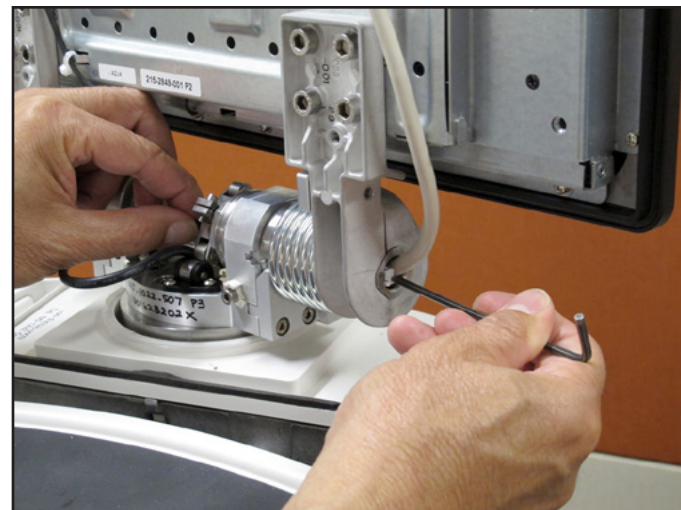

Figure 3-89 Removing Cable Assembly W126
- 66.6 Use a hex wrench to push connector P1 into the feed-through channel and pull cable W126 from the other end simultaneously as shown in Figure 3-89. **Note: Do this slowly and carefully to avoid any damage to connector P1.**